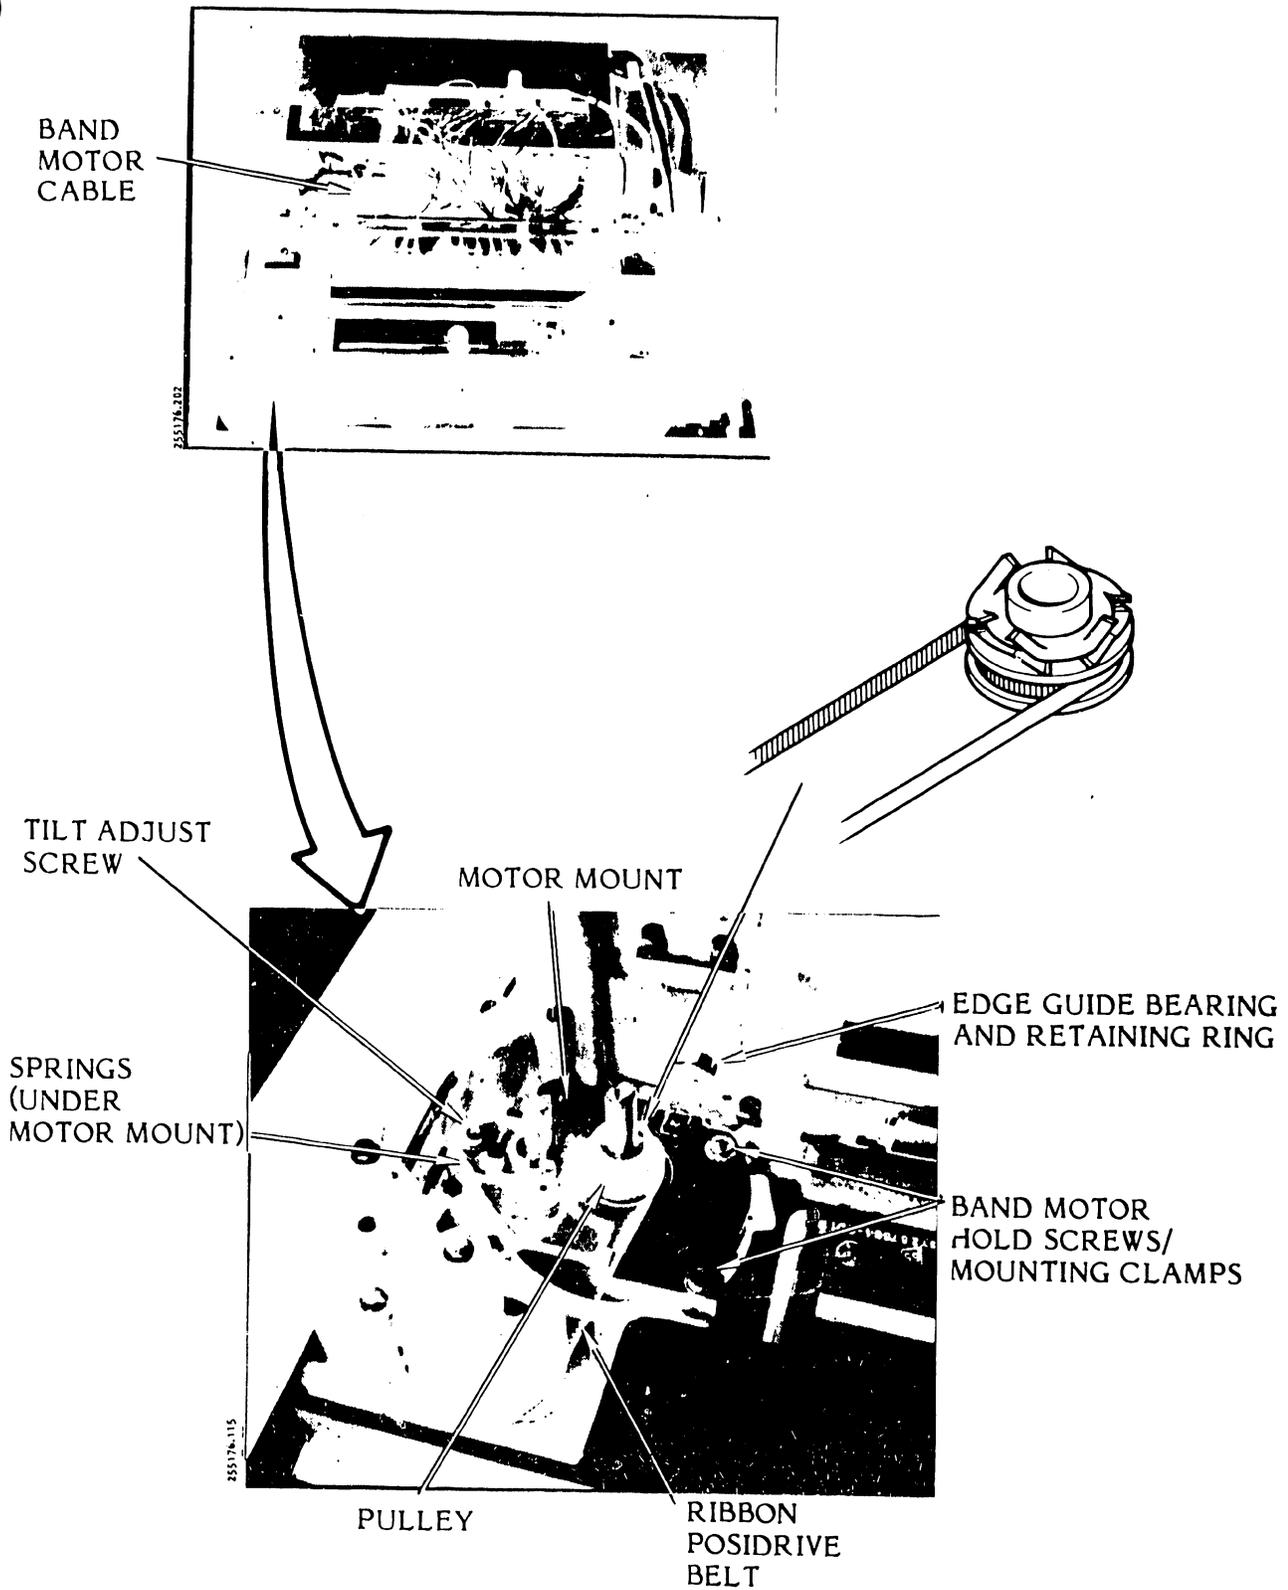

Figure 3-86. Band Motor Assembly (Posidrive) Removal/Installation
**3.7.16 Band Motor with Edge Guide Bearing (Posidrive System) Removal/Installation (Figure 3-86)**
- e. Unplug the band motor cable from the Power Board CCA (see figure 3-86).
- g. Use an 8 mm nut driver to remove the two band motor hold down screws and clamps (see figure 3-86).
- g. Place the ribbon drive belt in place over the ribbon belt pulley and ribbon drive pulley (see figure 3-86).
- h. If the motor assembly is the slip clutch type, install the slip clutch as shown in figure 3-86. Make sure the finger washers fit completely over the motor shaft hub.
(Figures 3-86 and 3-87)
- 2. Use a No. 2 retaining ring pliers to remove the retaining ring (see figure 3-86).
- 2. Use the No. 2 retaining ring pliers to snap the new retaining ring on the shaft to hold the bearing in place (see figure 3-86).
- c. If the band drive pulley was removed and has the slip clutch underneath, make sure it is installed properly as shown in figure 3-86. Place the pulley on the motor shaft or idler shaft and secure it using the 8 mm nut driver and mounting screw washer.